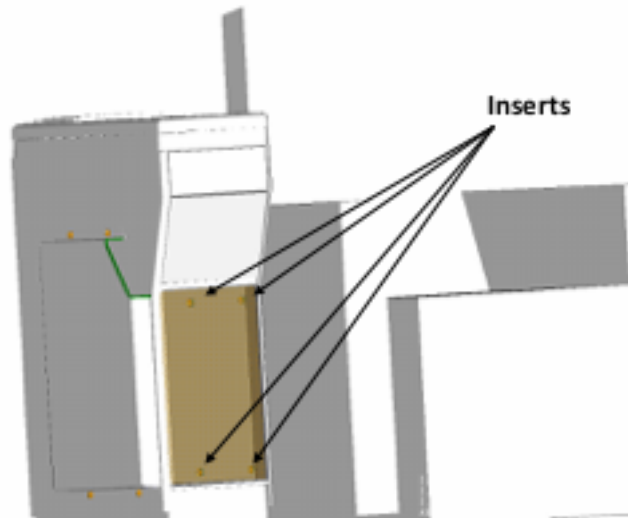

FIGURE 6 - RPU 3 PROVISIONAL POSITION IN THE CENTER MONUMENT
- » The provisions to mount RPU 3 will be located in the lower compartment of the center monument located between the observer's seats. The modification will require the installation of potted inserts into the wall for the future installation of (1) RPU (see Figure 6).